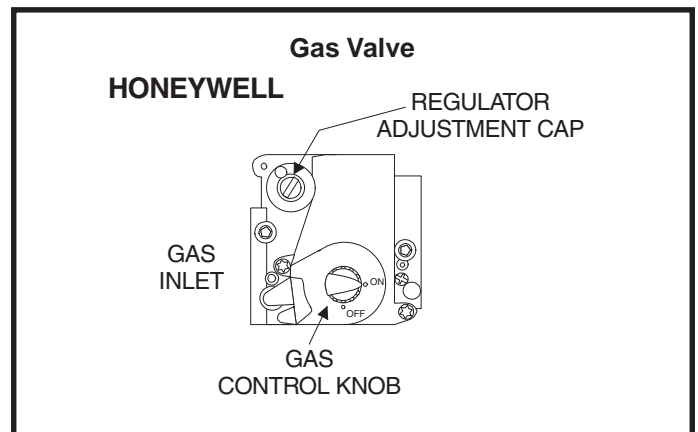

Figure 1
4. Turn the gas valve knob to "ON" position (see Figure 1).